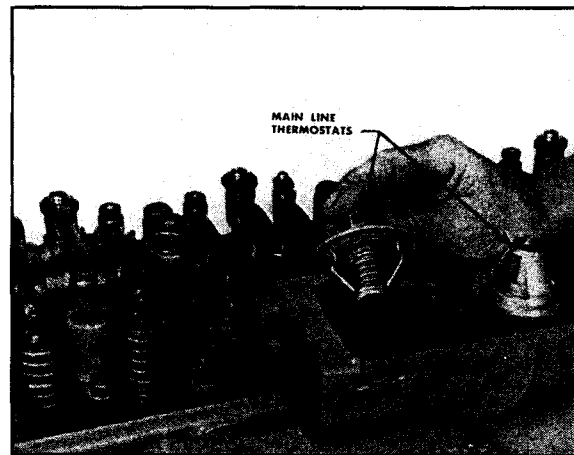

Fig. 12-64. Installing main line thermostats
2. Install the two main line-thermostats with the springs down. Fig. 12-64.